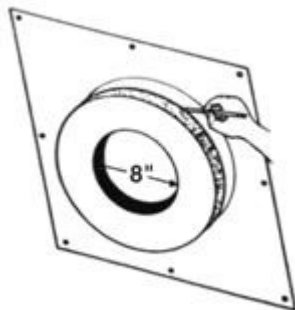

Figure 5: Thimble Length Adjustment
4. Insert the (thick wall) Thimble into the mounted Metal Base. Position Thimble firmly against chimney. The Thimble shall protrude at least 1/4 " beyond the Metal Base flange. If the Thimble protrudes more than 1/2" beyond round Metal Base flange (into room), mark Thimble using flange edge as a guide. (See Figure 5) Remove Thimble from Metal Base. Allow 1/4 " to 1/2 " additional length of Thimble beyond the marked line to protrude into the room. This additional length is your cutting line, and is **necessary** for the Thimble to be **firmly** held against the chimney. Using a handsaw cut the excess portion of the thimble off. The use of a facemask is recommended as good practice while sawing Thimble.